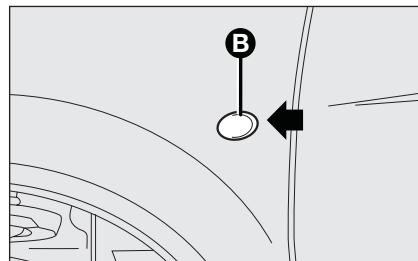

fig. 16
- prise in the point indicated by the arrow, so as to compress the fixing clip and extract the assembly **B**-fig. 16;